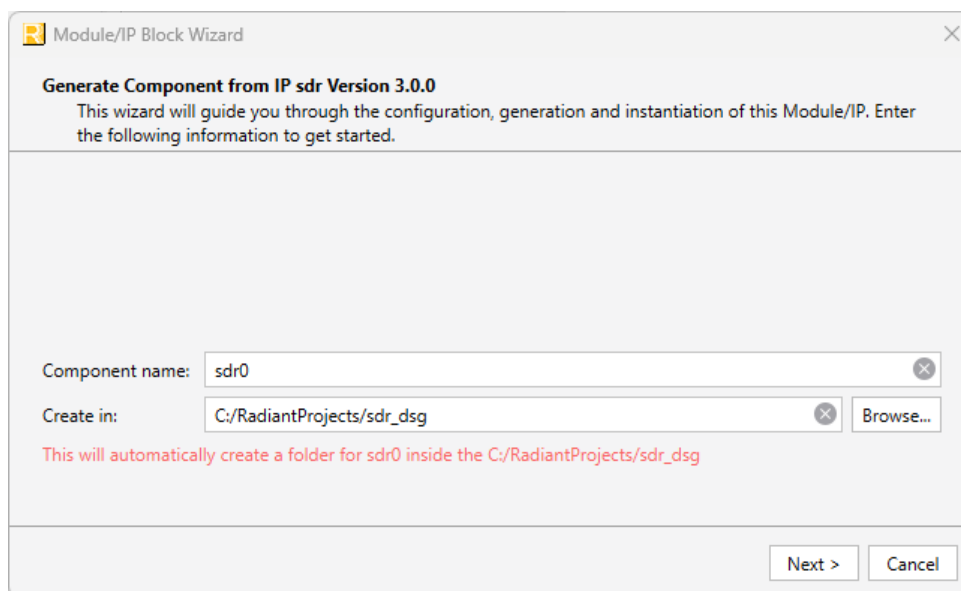

Figure 5.1. Module/IP Block Wizard
3. On the **IP on Local** tab, double-click on **SDR** under **Module, Architecture_Modules, IO** category. The **Module/IP Block Wizard** opens as shown in Figure 5.1.
- Click **Finish**. All the generated files are placed under the directory paths in the Create in and the Component name fields shown in Figure 5.1.